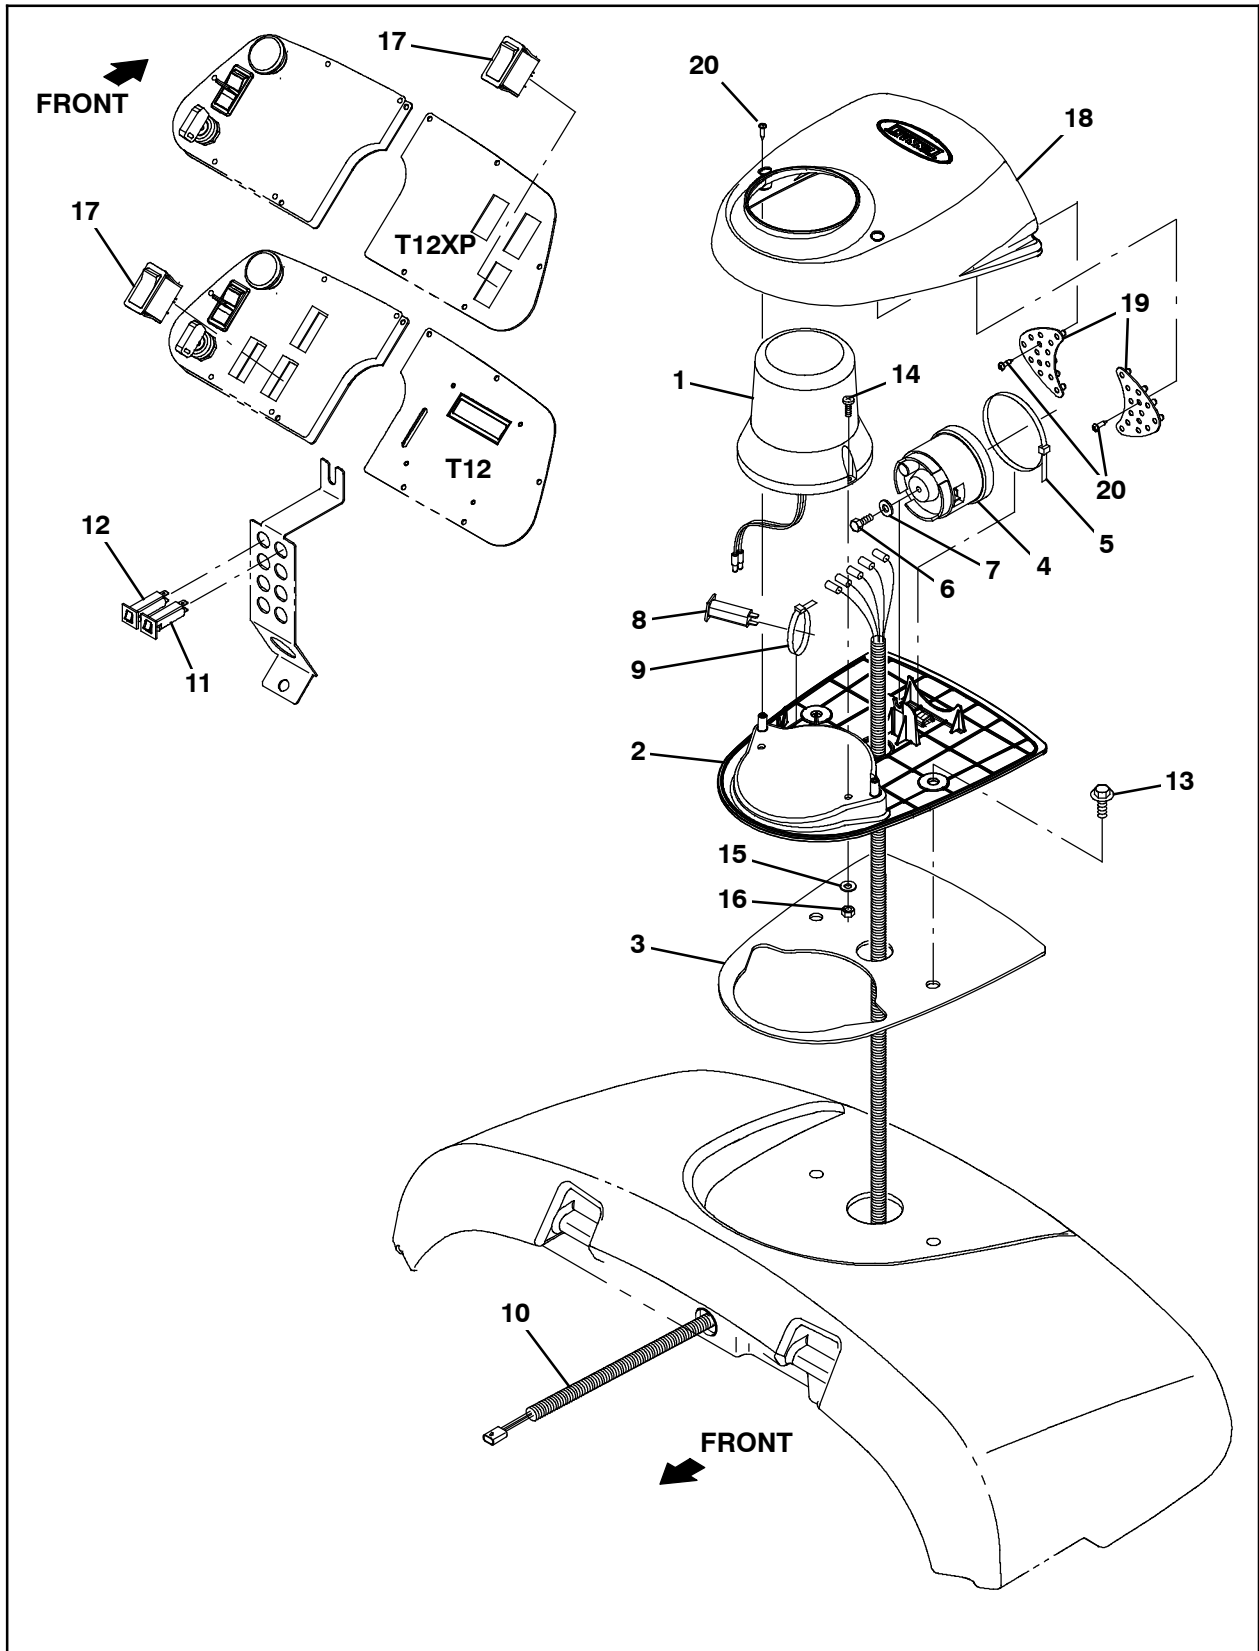

FIG. 19
- Use two pan screws (20) to install the light module cover (18) onto the rest of the light / alarm assembly. (Fig. 19)